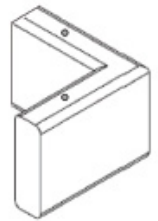

FIG.14
- Once corner mitre has been fitted together, neatly drill 2x 3.5mm locating holes down through the top of the sliding door track (in the centre of the rebated slot) and 3.0mm pilot holes (30mm deep) into the nylon corner block (FIG 14).